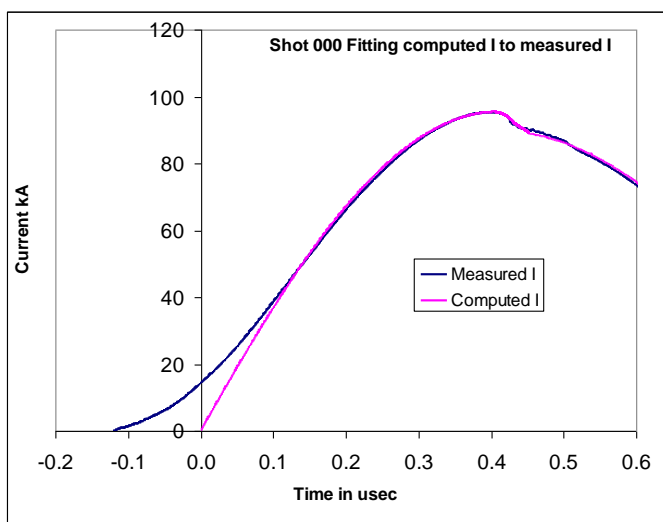

Fig 4. The best fit? This best fit was obtained by keeping $f_c=0.7$ and $f_{cr}=0.7$.
The final best fit may look something like Fig 4.
We note that Fig 4 shows quite a bit of difference between the computed and measured current traces in the first 0.12 microsec of time (for the computed current trace). After $t=0.12$ microsec, the agreement of the two traces is reasonable. The difference up to $t=0.12$ microsec is postulated to be due to non-ideal switching action of the switch. We ignore this first part of the measured current trace which we assume to be not important; since we are able to fit the rest of the current traces from $I=40$ kA up to the peak of $I=95$ kA and beyond to the current dip.
2. Koh et al had published a paper with the Y_n vs P results for NX2-T at various voltages. We select one set of Y_n vs P from the paper for NX2-T operated at 14.5 kV using Fig 4 of the paper. (also given in Koh FYP report as Fig 4.2.) The paper is attached as File *NX2T.2 Koh.pdf*
3. The highest curve of Fig 4 of the paper is digitized and given as File *NX2T.3 koh YnvsP digitized.xls*.